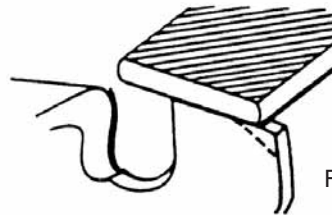

Fig. 4-4
- 4) Round off front corner to maintain original shape of depth gauge after using depth gauge tool. Always follow the recommended depth gauge setting found in the maintenance or operator manual for your saw. (Fig. 4-4)
- File (1) cutter on one side of the chain from the inside out.